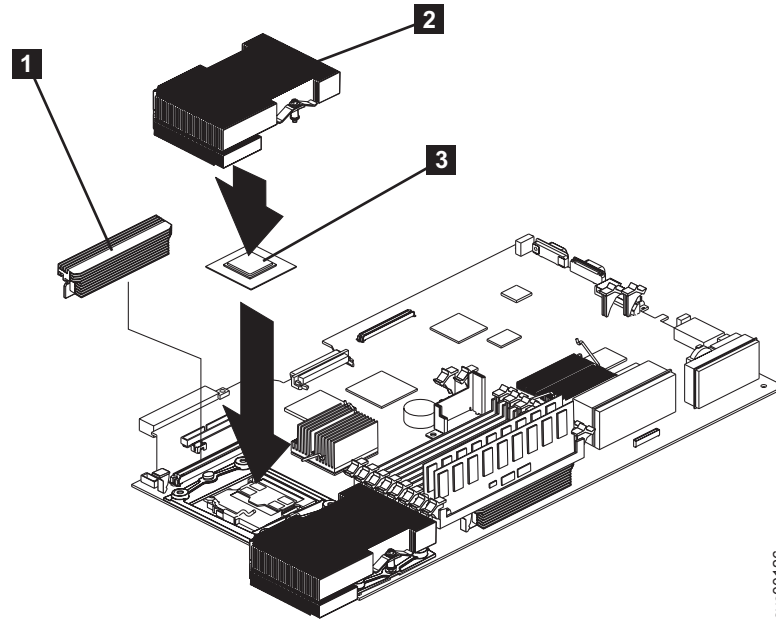

Figure 169. Microprocessor and heat sink locations
7. Install the heat sink **2** on top of the microprocessor **3**. See Figure 169.